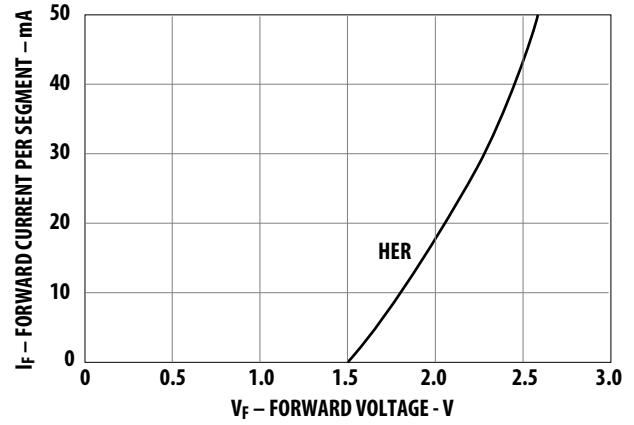

Figure 11. Forward current vs. forward voltage.
7. See Figure 11 to establish pulsed conditions.